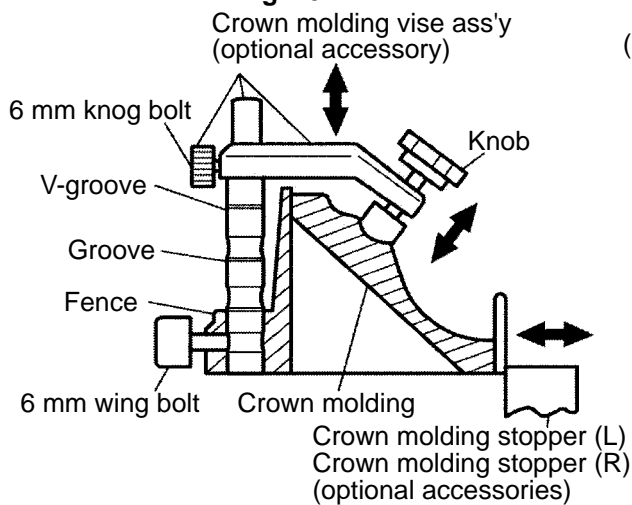

Fig. 49-2
- Crown molding vise ass'y (include crown molding stopper (L))
- Crown molding stopper (L)
- Crown molding stopper (R)
(2) The crown molding vise ass'y (optional accessory) can be mounted on either the left fence (fence (B)) or the right fence (fence (A)). It can unite with the slope of the crown molding and vise can be pressed down. Then turn the upper knob, as necessary, to securely attach the crown molding in position. To raise or lower the vise assembly, first loosen the 6-mm knob bolt. As shown in Fig. 49-2, the vise shaft has three locking grooves into which the tip of the 6-mm wing bolt is designed to fit in order to lock the screw holder in the desired position.
To ensure that the tip of the 6-mm wing bolt is properly aligned with the desired locking groove on the vise shaft, simply align the upper surface of the fence to either of three v-grooves on the vise shaft surface or to the lower surface of the screw holder. Therefore, the vise assembly can be attached in either of three positions to ensure proper height adjustment. After adjusting the height, firmly tighten the 6-mm wing bolt; then turn the upper knob, as necessary, to securely attach the crown molding in position. (See Fig. 49-2.)
Position crown molding with its WALL CONTACT EDGE against the guide fence and its CEILING CONTACT EDGE against the crown molding stoppers as shown in Fig. 49-2. Adjust the crown molding stoppers according to the size of the crown molding. Tighten the 6-mm wing bolt to secure the crown molding stoppers. Refer to Table 11 below for the miter angle.